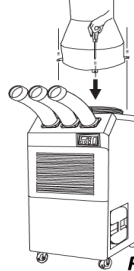

Figure 6
3. Use screws (enclosed inside of box with flange) to install flange on air conditioner as shown in Figure 6.